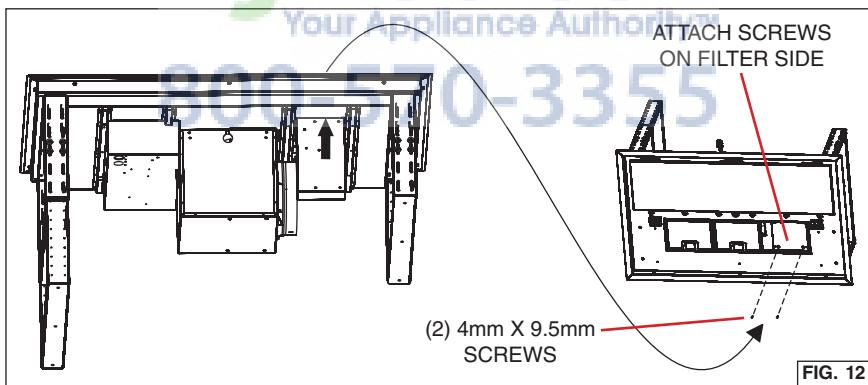

FIG. 12
3. Attach control box with (2) 4 x 9.5 mm screws provided. Fig. 12.